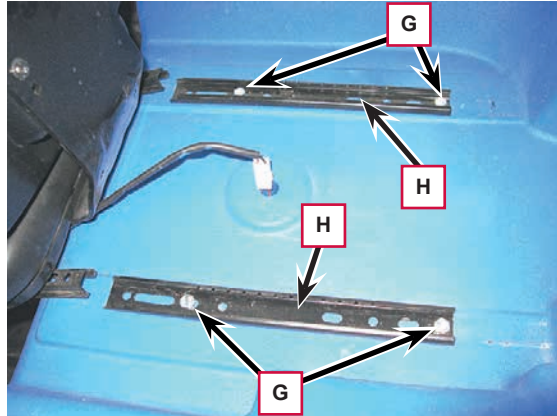

Figure 18
- Before tightening the screws (G, Figure 18) check that the seat rails (H) are aligned